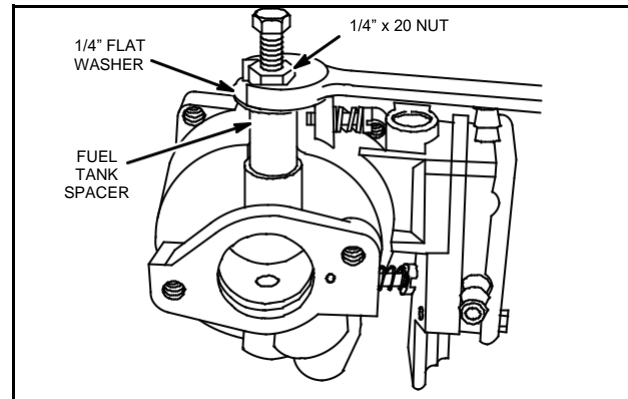

Fig. 20 – Remove Bushing
5. Tighten nut until bushing is removed, Fig. 20.